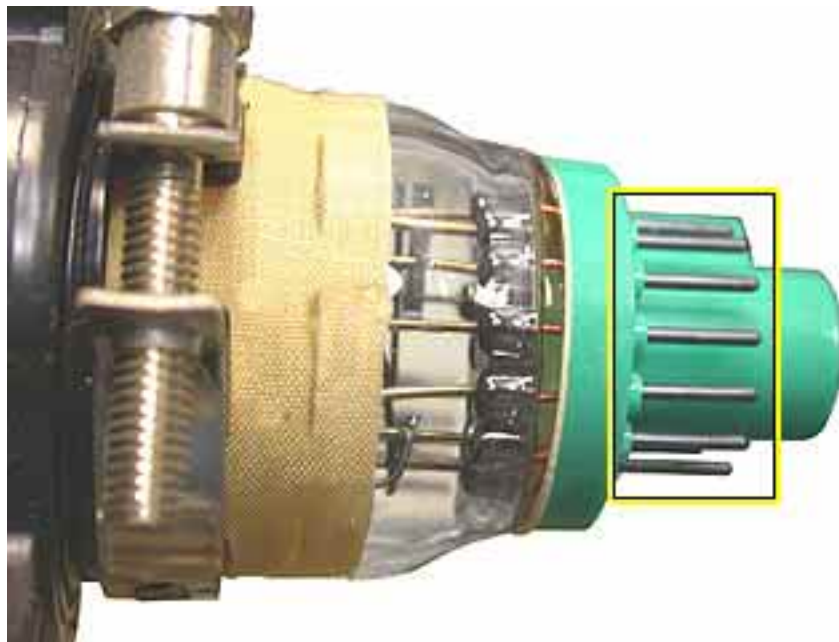

Figure 1 CRT Neck Pins
1. Check for bent pins on the CRT neck (see Figure 1). Remove the video board and observe the pins on the CRT neck. Make sure all of them are straight. If the pins are not straight, carefully attempt to straighten them with a flatblade jeweler’s screwdriver or needlenose pliers and test the board again.